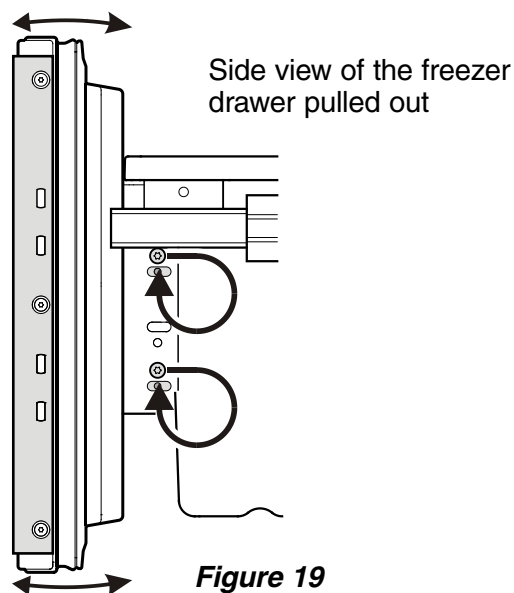

Figure 19
To prevent the appliance from tipping forward the leveling feet ① (Figure 19) must have contact with the floor.
Adjusting the front of the drawer - Figure 19
- Figure 19